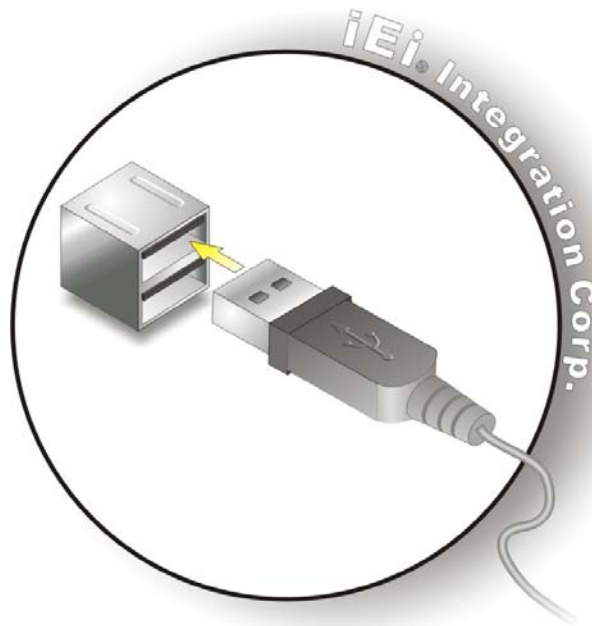

Figure 3-45: USB Device Connection
Step 2: Align the connectors. Align the USB device connector with one of the connectors on the bottom panel. See **Figure 3-45**.